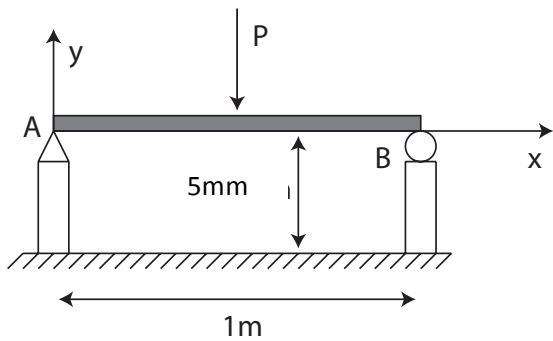

Figure 1: The bridge
- Determine the normal stress σ_θ that acts on the section AB as a function of radius r and angle θ , where, by figure 1, $0 < \theta < \pi$.
As final project for the mechanics of materials lab, the students are asked to build a bridge that will stand 800 N load on its center. The bridge is 5 mm above the ground and is supported as illustrated in figure 1.